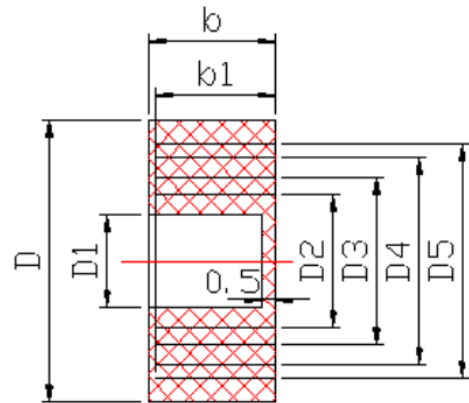

图 3
7.2.6 External diameter of the cable should fit bore diameter of the seal ring (Figure 3). The min diameter of cable is D1, max D5, seal ring is of Nitrile rubber NBR specification and dimension see table 4 (concentric-ring of seal gasket can be striped off to fit inner diameter of incoming cable). The diameter gap should not exceed 1mm. Clamp the connection plug and ensure that there is no clearance between seal ring and power cable as well as between seal ring and connection box body, otherwise the motor will lose its explosion-proof function.